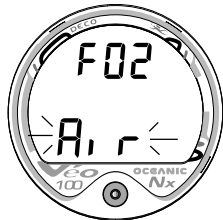

Fig. 18 - FO2 set for AIR
- Release the button when the FO2 screen appears with the Set Point flashing (Fig. 18).